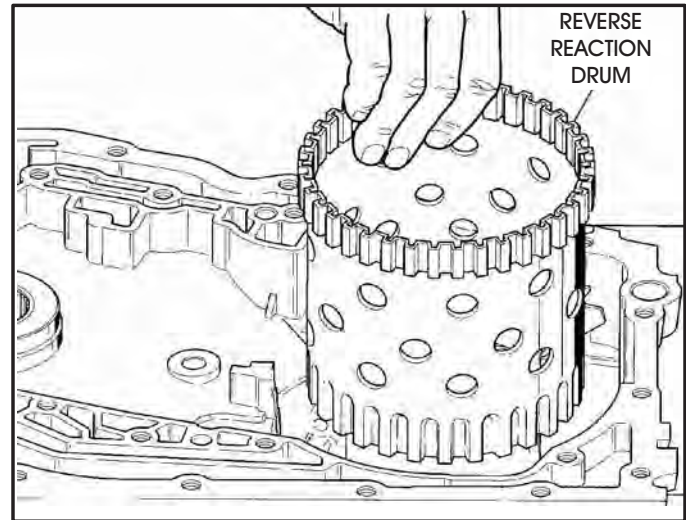

Figure 69
48. Remove the reverse reaction drum, as shown in Figure 69.